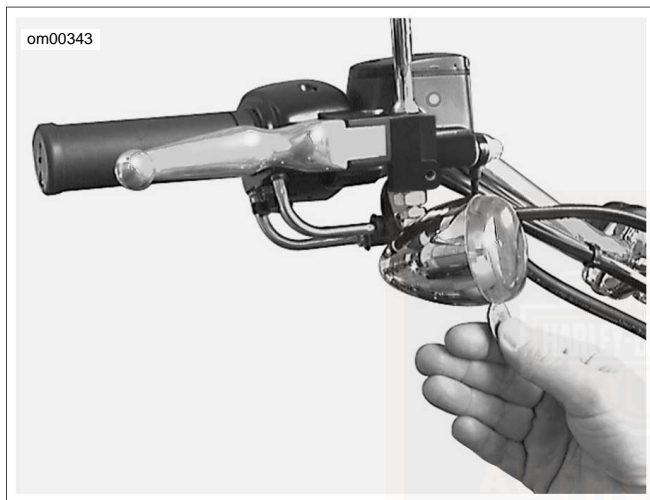

Figure 43. Lens Cap Notch
1. See Figure 43 Insert a coin or the blade of a small screwdriver into the notch at the bottom of the lens cap. Carefully twist until the lens cap pops out of the lamp housing.